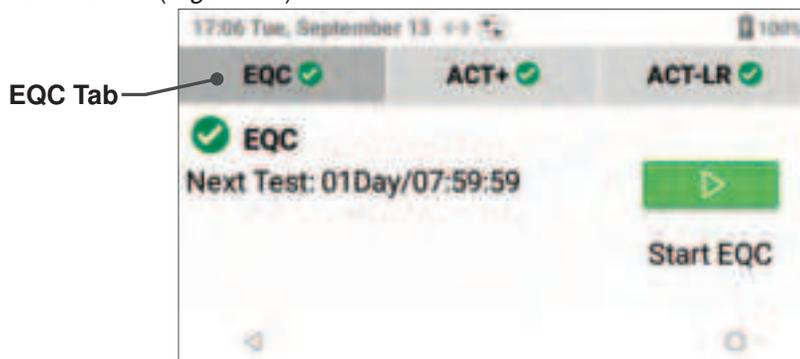

Figure 60: Select EQC Tab
- 2 Select the **EQC** tab (Figure 60).